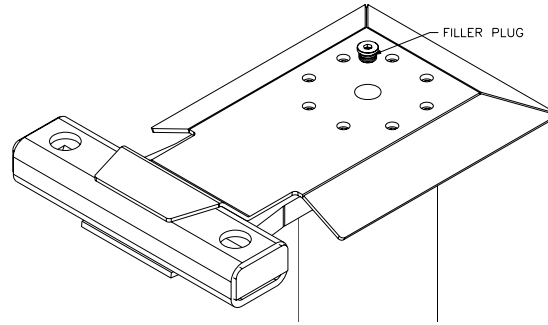

Fig. 7
18. Open the filler plugs on both pistons and fill each cylinder with 13.2 gallons (50 liters) of clear water using a bucket and a funnel. Add 3-5 gallons to one side and then move to the other side to allow the trapped air to escape. **Do Not** use a hose to fill the cylinders. This can cause air to be trapped in the cylinder and possibly introduce contamination from the hose into the cylinder. The cylinder is filled correctly when the water level is over the head of the inside piston or about 1" below the filler hole. See Figure 7.
19. Replace filler plugs on both pistons. See figure 7.